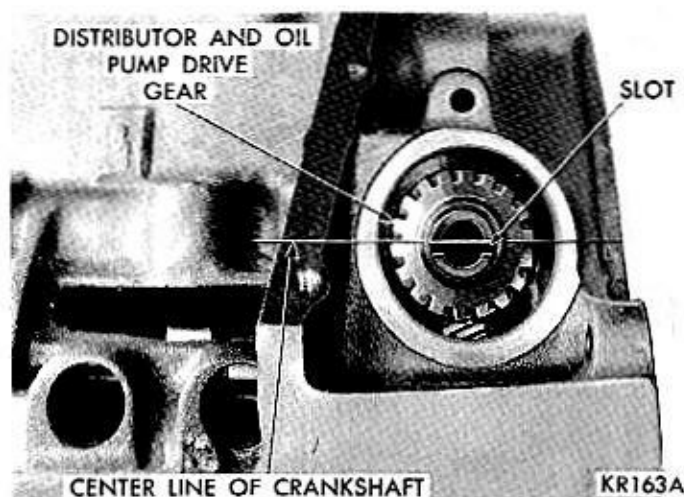

Fig. 34—Distributor Drive Gear Installed
(1) Rotate crankshaft until NO. 1 cylinder is at top dead center on the firing stroke.
(2) When in this position, the straight line on the vibration damper should be under "O" on timing indicator.
(3) Coat shaft and drive gear with engine oil. Install the shaft so that after gear spirals into place, it will index with the oil pump shaft, so slot in top of drive gear will be parallel with center line of crankshaft (Fig. 34).